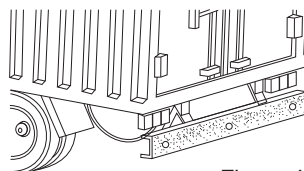

Figure 4
④ There is ice on the surface of the sensors or it is covered by dirt, dust or snow flakes, as shown in Figure 4